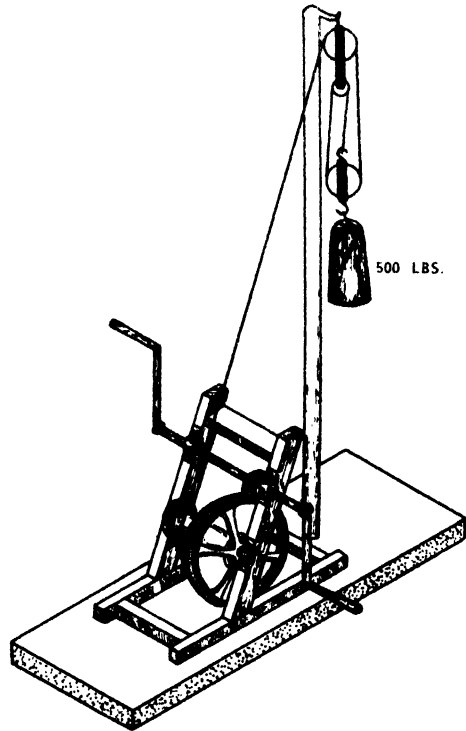

FIG. 138. WINCH.
2. The winch, Fig. 138, has 74 teeth on the drum gear and 22 teeth on the pinion gear. The drum is 4" in diameter and the crank handles are 12" long. a) Find the ideal M. A. of the entire machine.